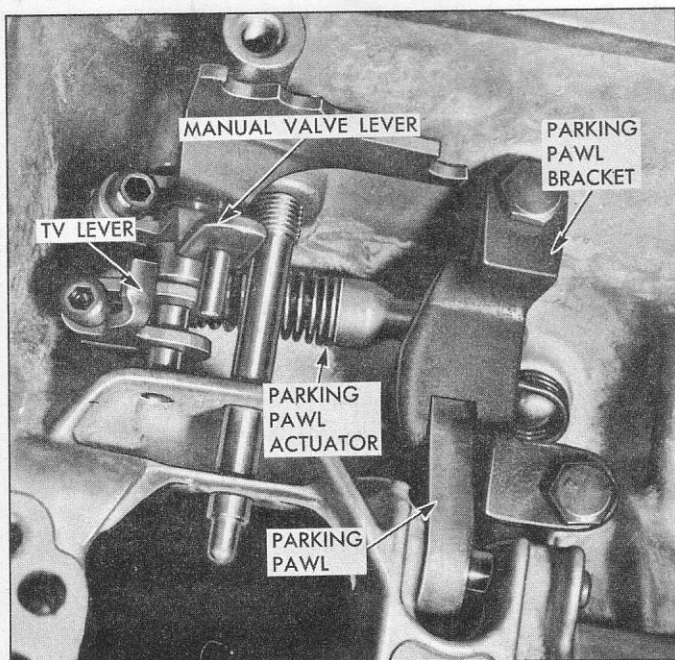

Fig. 19—Inner Control Levers, Parking Pawl and Bracket
26. If necessary, the TV, shift and parking actuator assembly levers, and the parking pawl and bracket (fig. 19) may be removed.